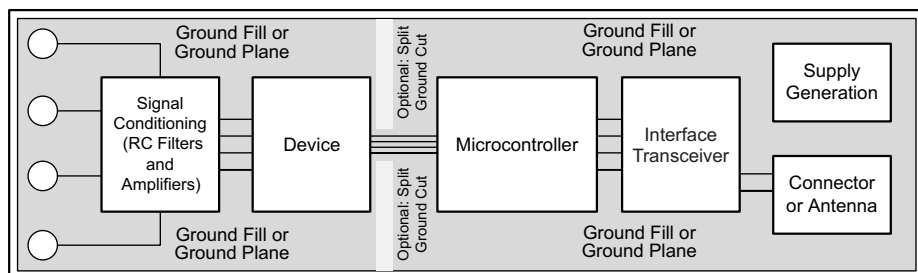

Figure 82. System Component Placement
Employing best design practices is recommended when laying out a printed-circuit board (PCB) for both analog and digital components. This recommendation generally means that the layout separates analog components [such as ADCs, amplifiers, references, digital-to-analog converters (DACs), and analog MUXs] from digital components [such as microcontrollers, complex programmable logic devices (CPLDs), field-programmable gate arrays (FPGAs), radio frequency (RF) transceivers, universal serial bus (USB) transceivers, and switching regulators]. Figure 82 shows an example of good component placement. Although Figure 82 provides a good example of component placement, the best placement for each application is unique to the geometries, components, and PCB fabrication capabilities employed. That is, there is no single layout that is perfect for every design and careful consideration must always be used when designing with any analog component.